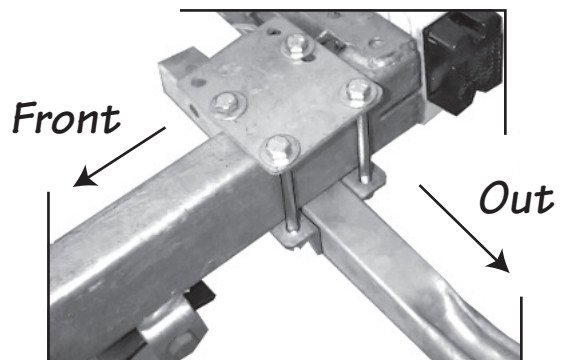

Figure 2
3. Slide the guide support tube into the assembly as shown in figure 2.